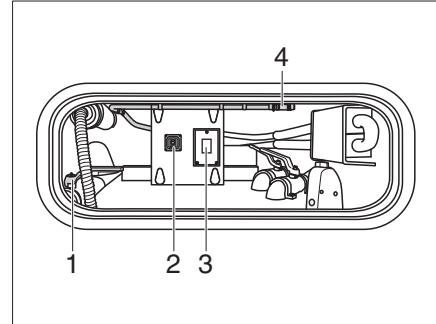

Fig. 388 Flushing the cassette of the macerator toilet (view in the storage box)
- Open the drain cock (Fig. 388,1).
- Press the switch (Fig. 388,3).
- Operate switch (Fig. 388,2) for the drainage pump.
- Remove the hose for tank cleaning (Fig. 388,4) in the storage box and connect it to a water connection.
- Remove the water connection after flushing and store the hose for tank cleaning (Fig. 388,4).
- Close the drain cock (Fig. 388,1).